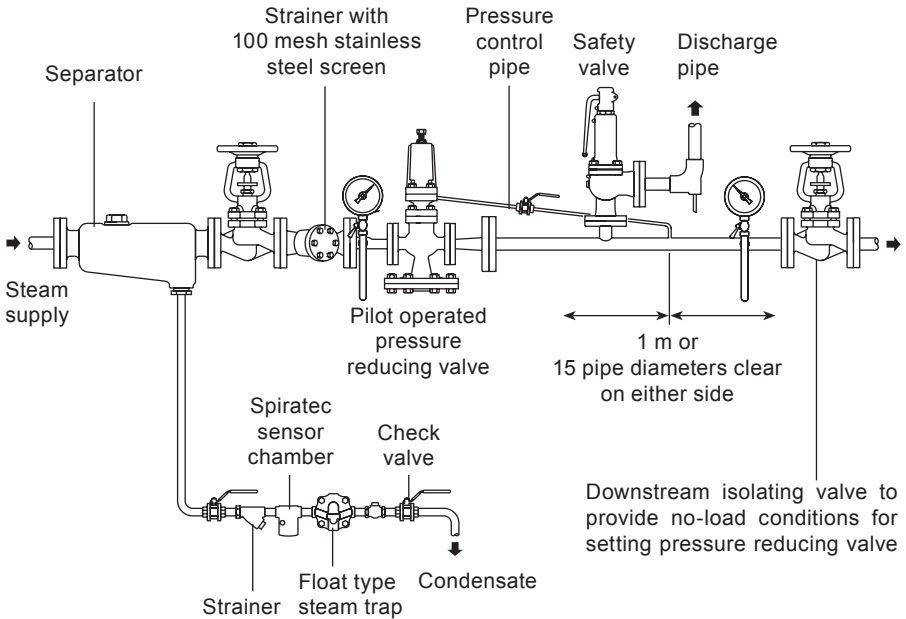
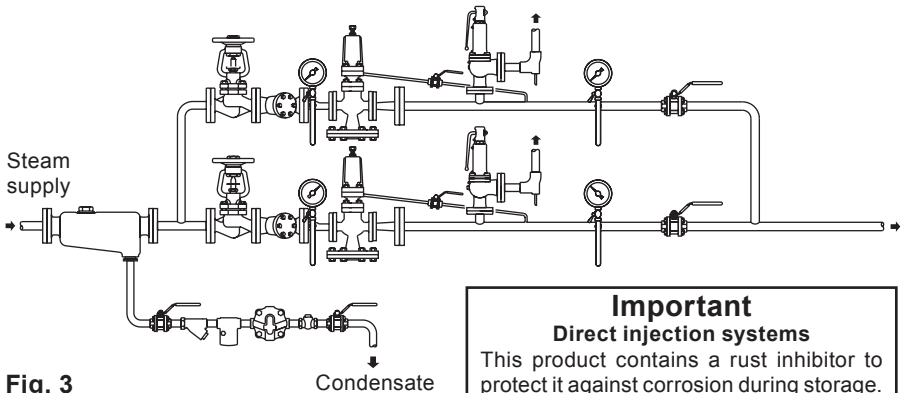

Fig. 2 Recommended installation
Fig. 3
3.2 Fitting (Figure 2 and Figure 3)